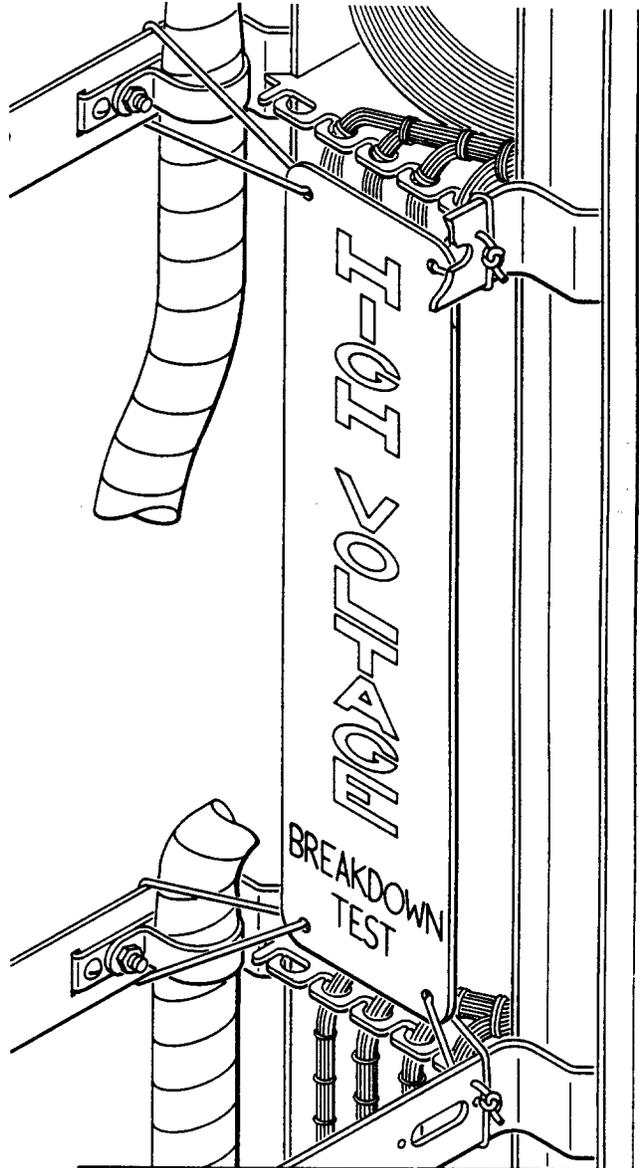

Figure 51—E Warning Sign
6.07 The E warning sign (Figure 51) is used in conjunction with the E warning marker. It provides additional visible warning for the connector being tested.